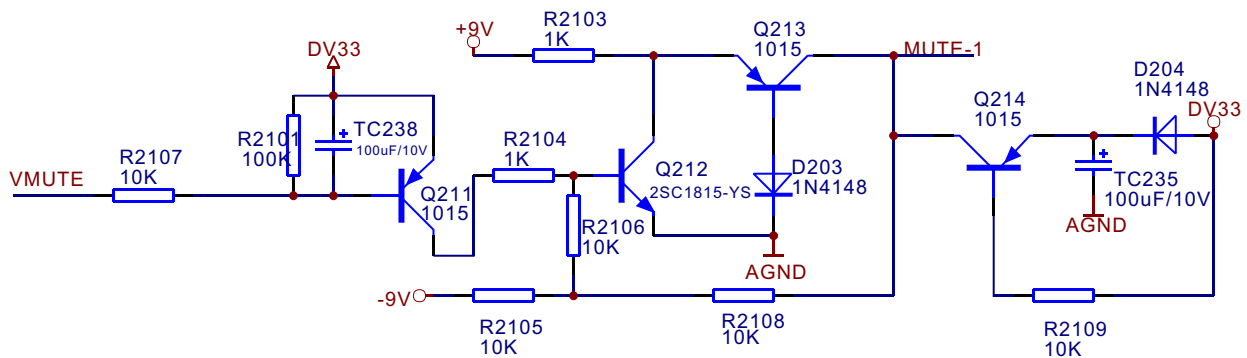

Figure 3.2.11.1 Mute circuit
1. Mute circuit diagram is shown in the figure 3.2.11.1:
When the player is working normally, shown in the figure 3.2.11.1, when chip is outputting analog audio signals, it outputs a low level signal at the same time to VMUTE to make Q211 on, voltage of Q211B electrode is about 2.7V, voltage of Q211 collector electrode is about 3.3V, so Q212 is also on; voltage of B electrode is about 0.7V, voltage of Q213 E electrode is close to zero, Q213 cuts off, MUTE-1 is negative voltage, which is added to base electrode of mute pipe of audio output end to make mute pipe cut off and audio signals output after being amplified by 4558. When in mute, MT1389 has no audio signals that output to operational amplifier, so audio output end of the player should have no audio output; electronic elements in circuit and IC will produce some noise to transmit to audio output end of the player, in order to filter these noise, decode chip outputs a high level signal to VMUTE to make Q211 cut off, so Q212 cuts off, +5V power transmits through E C electrode of Q213 to base electrode of switch pipe Q205-Q210 and circuit is in mute.
Shown in the figure 3.2.11.1, when the player is working normally, D204 is on, +5V charges capacitor TC235 through D204, now voltage of emitter electrode of Q214 is lower than voltage of base electrode and Q214 cuts off. When power off, +5V disappears, Q214 base electrode changes to low level, and its emitter base changes into high level because of discharge of TC235, now Q214 is on, collector electrode of Q214 (AMUTE) outputs high level to add to the base electrode of switch pipe Q205-Q210, switch is saturated, the noise produced in the course of power on and off is bypassed to ground, and power-off quieting function is realised.